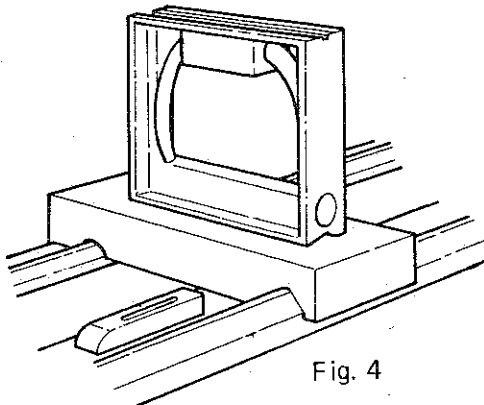

Fig. 4
When fitting chucks or faceplates first ensure that spindle and chuck tapers are perfectly clean and that all cams lock in the correct position see Fig. 4 It may be necessary when mounting a new chuck to re-set the camlock studs (A). To do this, remove the cap-head locking screws (B) and set each stud so that the scribed ring (C) is flush with the rear face of the chuck-with the slot lining up with the locking screw hole.